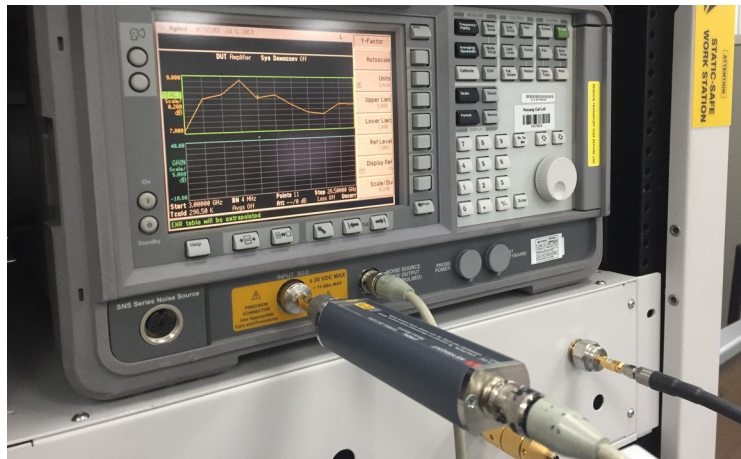

Figure 4-4 Operator's check test setup 2b
- 3 Connect the 346A/B/C to the NFA Input port using a BNC cable, as shown in Figure 4-4.